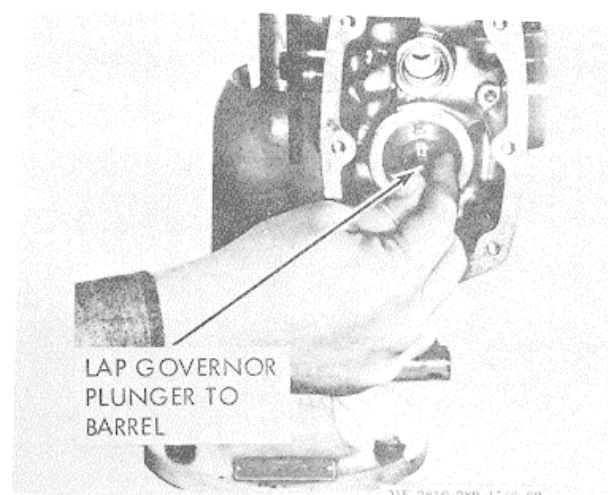

Figure 3-66. Governor plunger being lapped to burrel.
(1) Check governor barrel and plunger visually for wear.
(2) If worn, replace governor plunger with a one or two class larger plunger and lap to fit with No. 80 fine grit lapping compound, figure 3-66. Remove all lapping compound from parts (flush thoroughly).